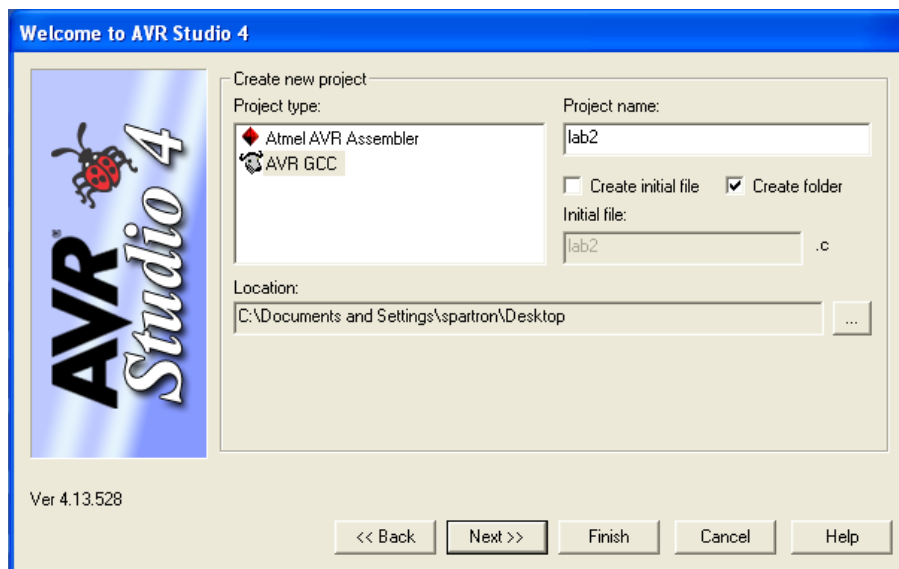

Figure 5. AVR Studio New Project window. Note the settings used for this lab and the location where your folder will be created.
2. Select **Project -> New Project** from the drop down menus or New Project from the pop-up window if one opens when you launch AVR Studio. You should see the new project window as shown in Figure 5.